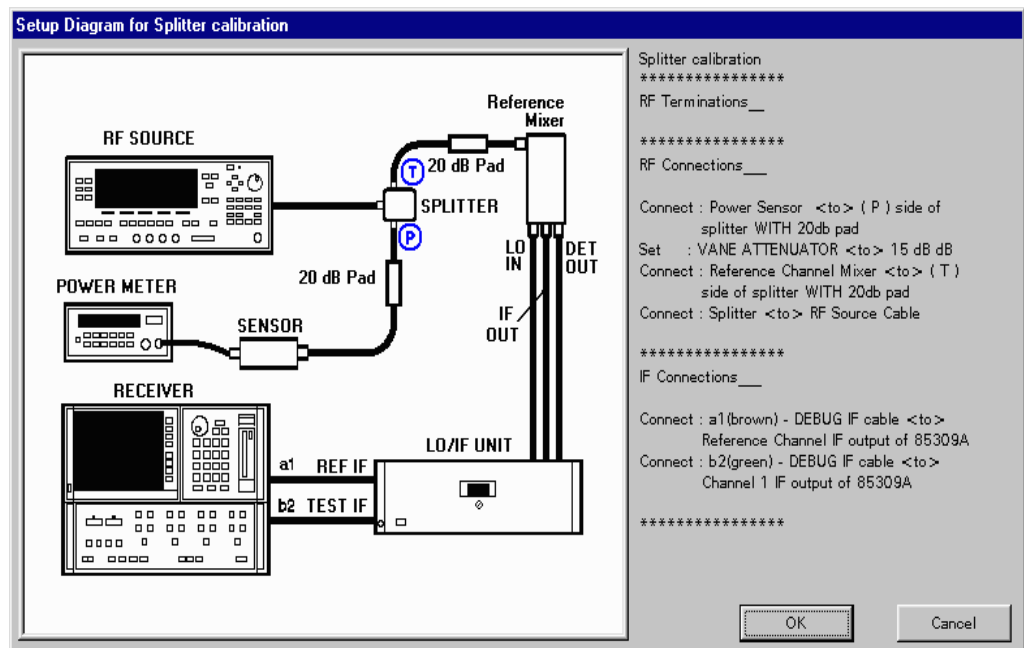

Figure 28 User Interaction Prompt
16. You are prompted to make equipment connections and perform various user interactions as the test plan proceeds. See Figure 28 for an example of the prompt window.